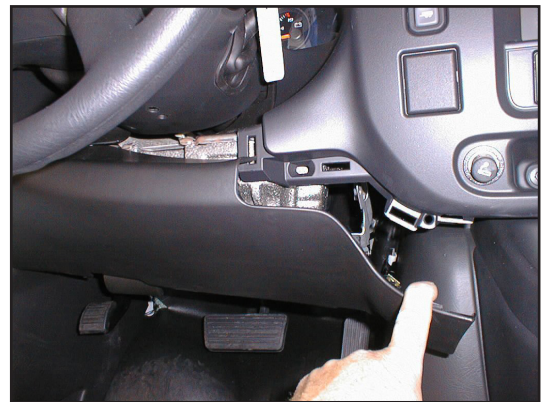

Figure 3. Remove Plastic Dash Covers
9. Carefully remove the plastic dash covers on the driver and passenger sides (see Figure 3). Remove the two bolts on the underside of each side, then remove the top portion by carefully pulling straight out. The dash cover on the driver side needs to be modified for clearance of the CDS cowling.